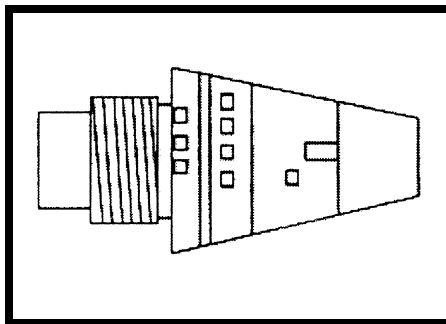

Figure 7-20. Setting the M776 (DM93) MTSQ fuze.
b. M776 (DM93) MTSQ Fuze (Figure 7-20).